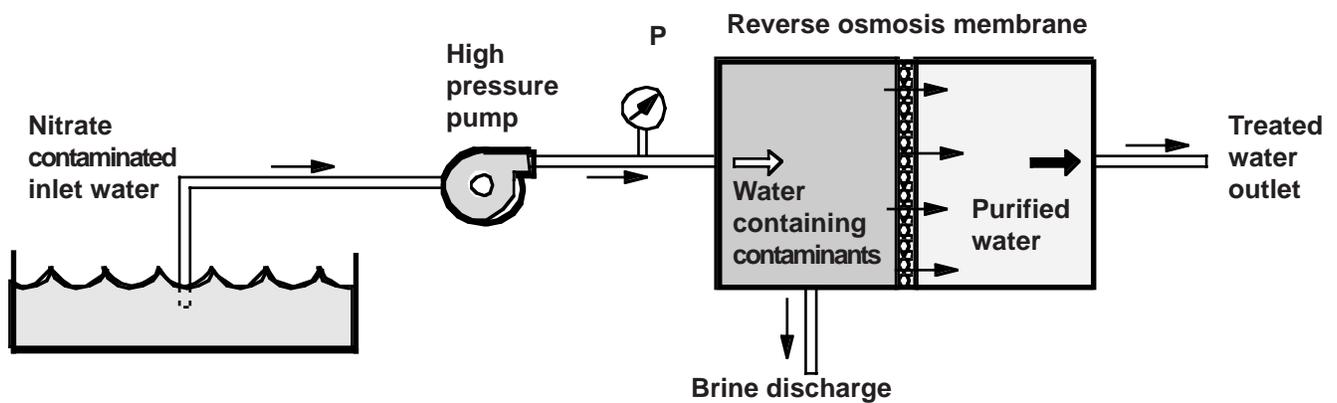

Figure 2. A schematic of the reverse osmosis process.
**Reverse osmosis** is another treatment mechanism. Figure 2 shows the reverse osmosis process. As water enters the unit under pressure, it pushes against a cellophane-like plastic sheet or cellulose—also called a semipermeable membrane. The membrane acts like a sieve, leaving ions like nitrates on one side and allowing ion-free water to pass through the membrane. How well the membrane filters the water is measured by the rejection rate. That is, how much nitrate will the membrane reject? Estimates are around 83 to 92 percent of the incoming nitrate. Naturally, knowing the original nitrate concentration in the water is